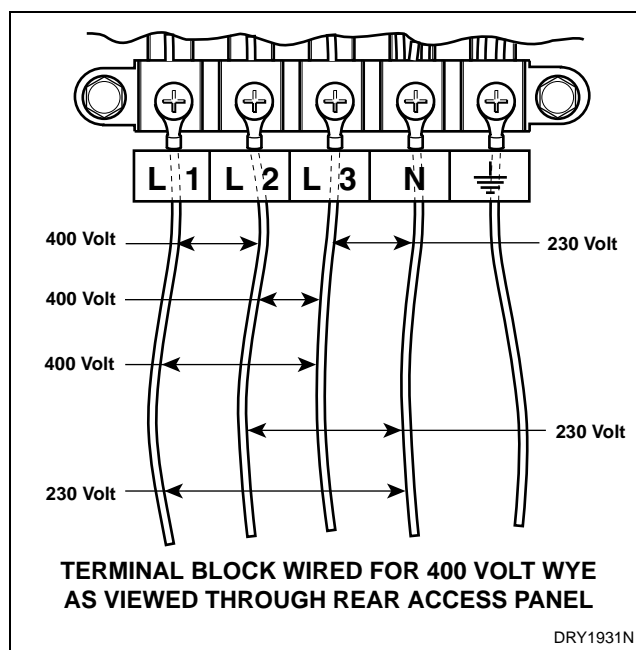

Figure 16
2. Attach power cord wires as shown in *Figure 16*.